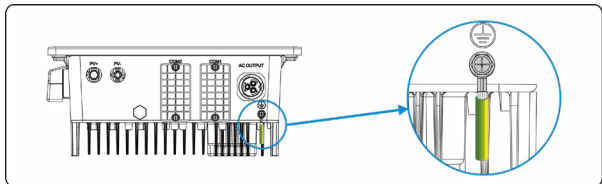

Figure 5.4 Secure the PGND cable
Step 4 Secure the PGND cable (done by step 1 & 2) using the ground screw and tighten the screw using a socket wrench (torque 1.2 N-m), as shown in **Figure 5.4**.